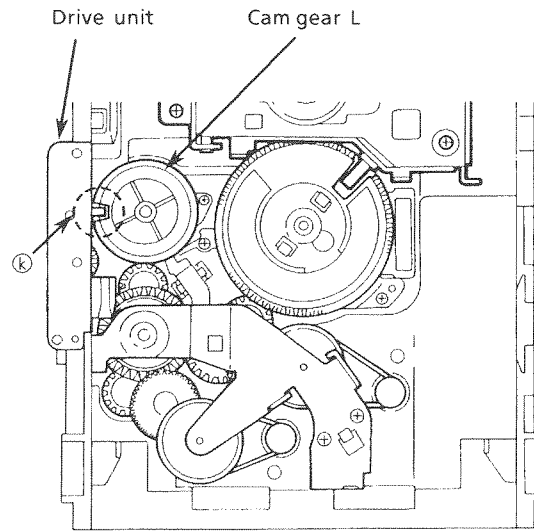

Fig. 41
2. Rotate the Cam gear L so that the drive unit's pole ② is positioned as shown in Fig. 41.